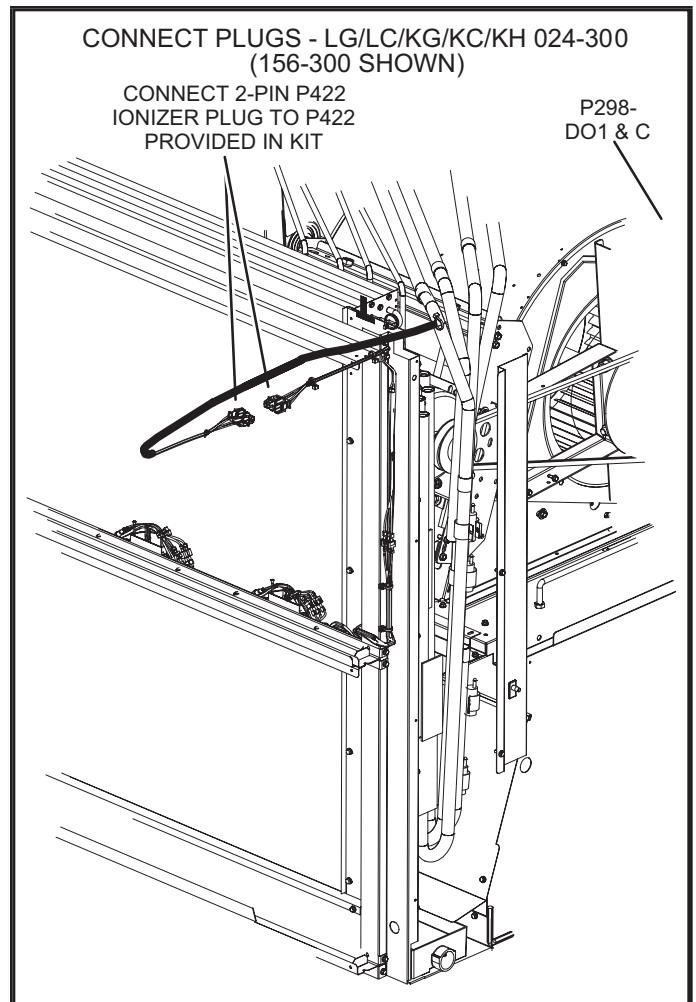

FIGURE 13
- 4 - Connect the 2-pin P422 plug (routed to the filter or blower section) to the ionizer P422. See FIGURE 13.
- 4 - Connect the 2-pin P422 plug (routed to the filter or blower section) to the ionizer P422 plug. See FIGURE 13. On 024-152 units, bundle excess wiring in blower section.